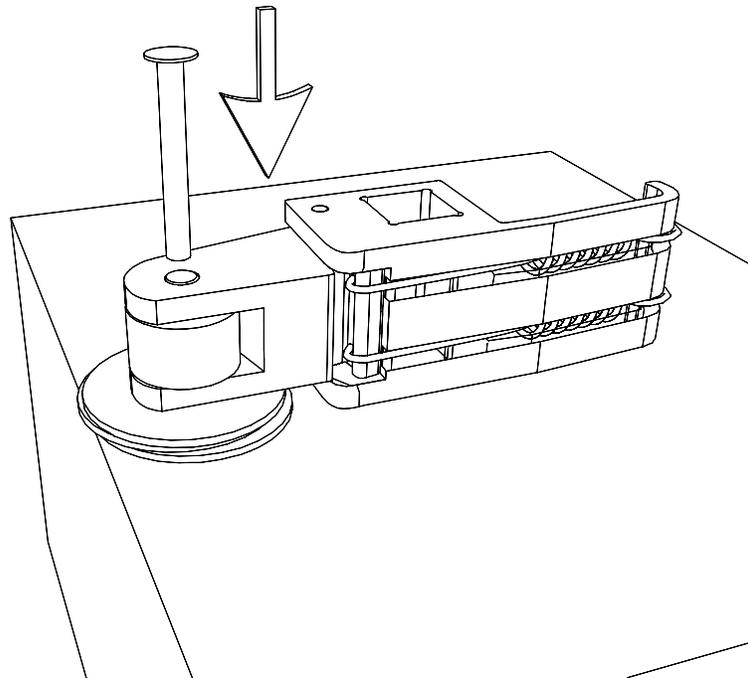

Fig. 3 - Wheel pin removal. NOTE: Be sure you remove the pin from the side shown.
- 1) Place the pinch wheel assembly on a solid metal surface with the big washers under the right side of the pinch wheel assembly. Make sure the pin can go through the holes in the washers. (See Fig. 3).
- 2) With a flat nail, or small diameter bolt, place on the wheel shaft, and pound the pin out using a hammer or hand press. There is only one direction the pin will come out, so make sure you have the wheel assembly positioned as shown in Fig. 3.